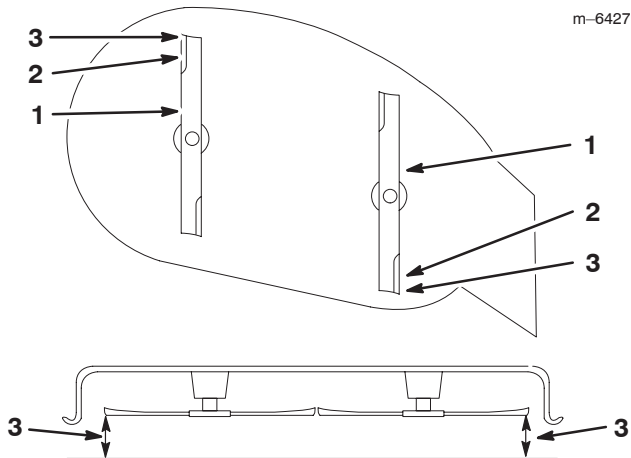

Figure 40
8. Set the height-of-cut at position 3 [3 inch (76 mm)] and carefully rotate the blades so they are facing front to rear (Fig. 40).
9. Measure from the tip of the front blade to the flat surface and the tip of the rear blade to the flat surface (Fig. 40). If the front blade tip is not 1/16–5/16 inch (1.6–7.9 mm) lower than the rear blade tip, adjust the front locknuts.